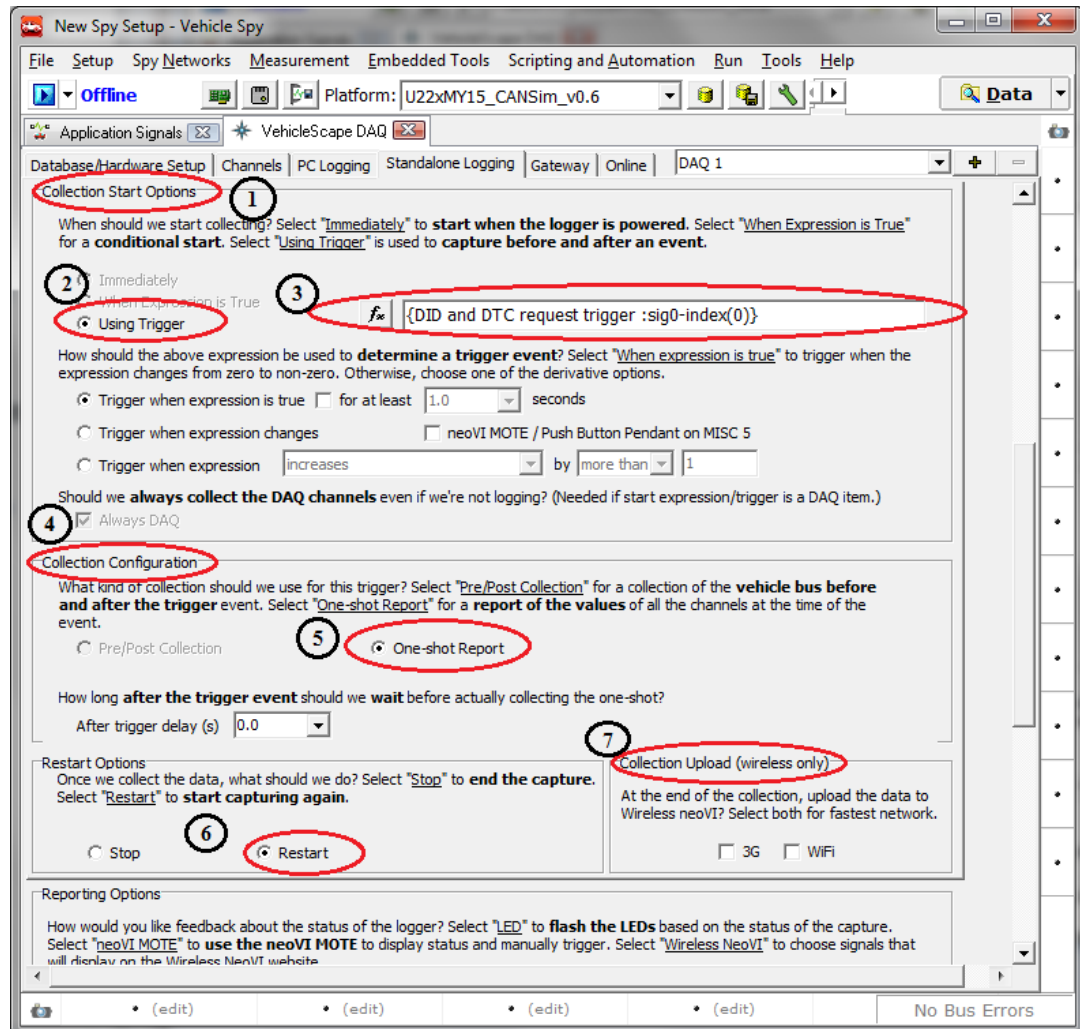

Figure 12.b: VehicleSpy configuration for collection options
- Collection start option (Figure 12.b (1)):
- Select ‘Using Trigger Expression’ option(Figure 12.b (2)).
- Click on  tab(Figure 12.b (3)). It will open ‘Select start Expression’ window.